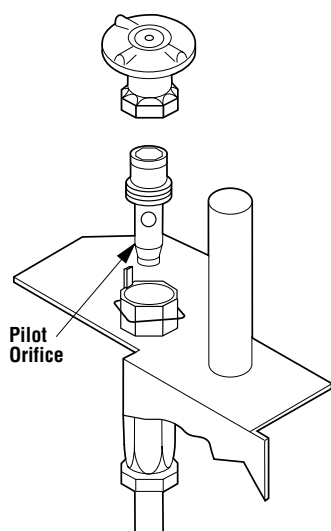

Figure 27
Step 7. Refer to **Figure 27** and remove the pilot hood assembly to access the hexed pilot orifice. Remove and replace the orifice with the one provided with the kit.